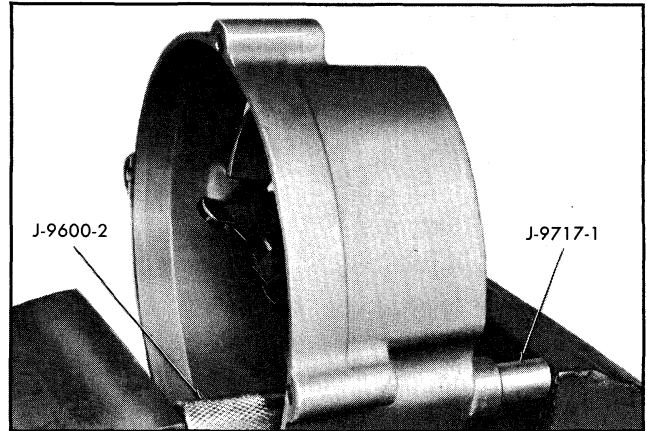

Fig. 11-24 Installing Diode
4. Place slip ring end frame in a vise so that new diode is in position and remover J-9717-1 supports casting (Fig. 11-24).